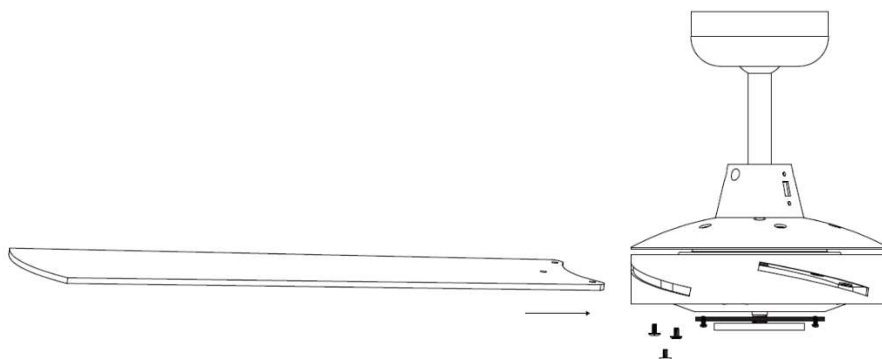

Fig. 5A
- Remove the 3 screws from the mounting holes of the blade. Insert the blade into the slot of rotating member of fan motor assembly and align the 3 mounting holes on the blade to the 3 mounting holes on the rotating member of fan motor assembly. (Fig. 5A)